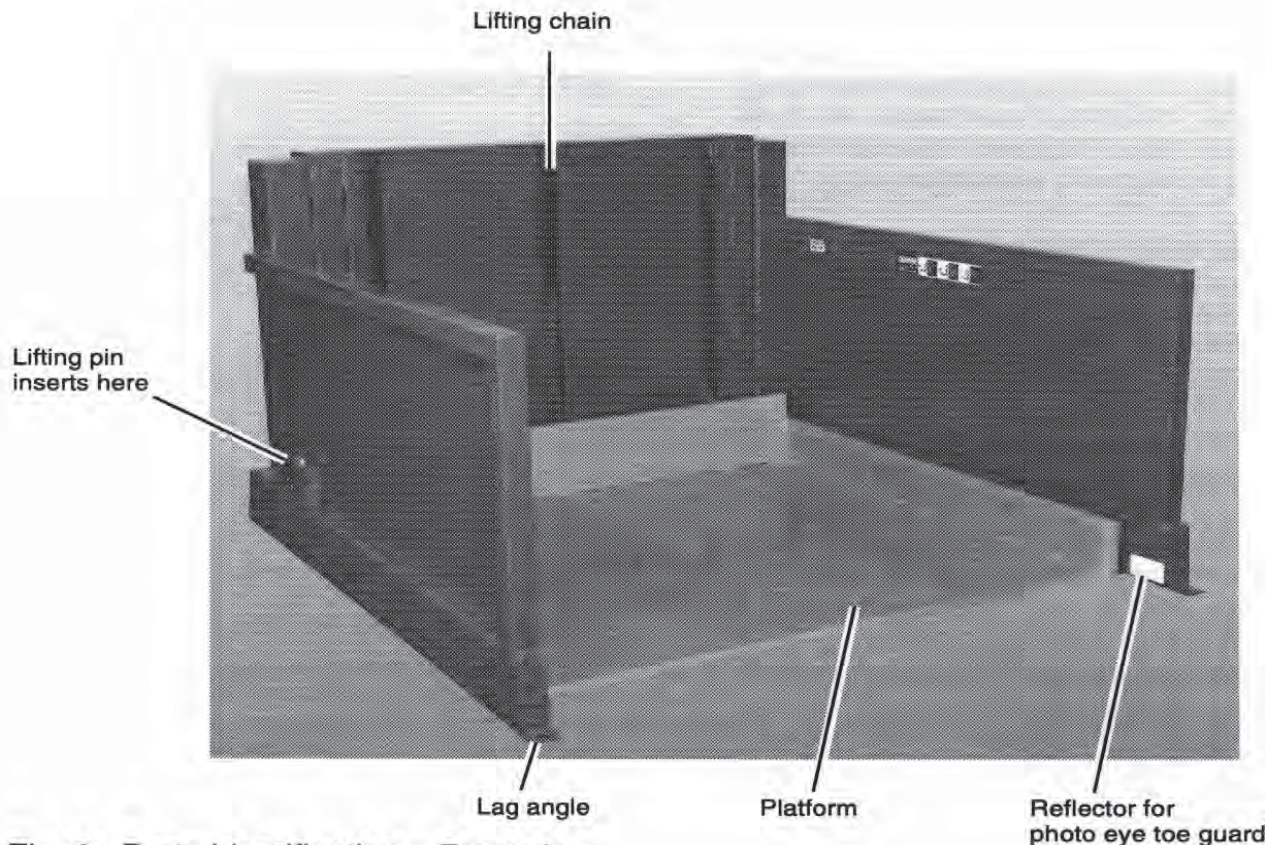

Fig. 6 Parts identification – Front view
- Do not work under the lift platform without installing the safety pins. (See Fig. 6 and the section on "Maintenance.")
This unit includes a photo eye toe guard. See Fig. 6. If something blocks the light beam, the unit will stop quickly. The control system will stop the motor and close the down valve, preventing the platform of the unit from moving down. This is designed to prevent the unit from lowering onto the operator's toes. If this safety system is not working correctly, do not operate the unit. Call a maintenance worker right away.
- **You should not have to do any maintenance work with the platform raised. All normal maintenance can be done with the platform lowered. However, if you ever need to work under the platform, you must be careful to do this safely. Raise the platform until you can insert the safety pins on each side. The pins are shown in Fig. 6. Finally, unplug the power cord. DO NOT WORK UNDER THE PLATFORM UNTIL YOU HAVE INSERTED THE PINS. If you fail to do this, the platform may drop suddenly. You may be hurt.**